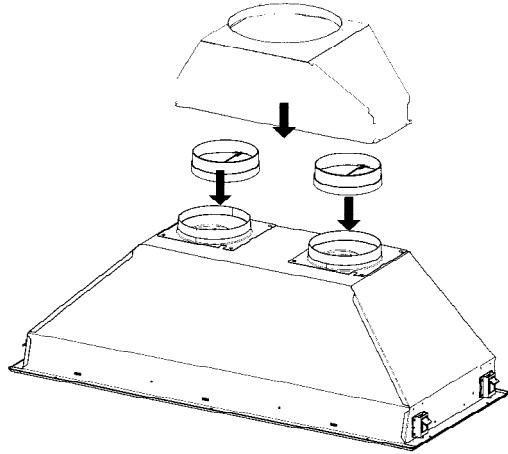

FIGURE 5
2. Place the round dampers into the exhaust openings of the rangehood and press down as indicated in **FIGURE 5**. If using optional **Duct Transition Kit**, fit this over the two round dampers and screw onto the top of the unit (screws not provided). Use duct tape to secure if necessary.